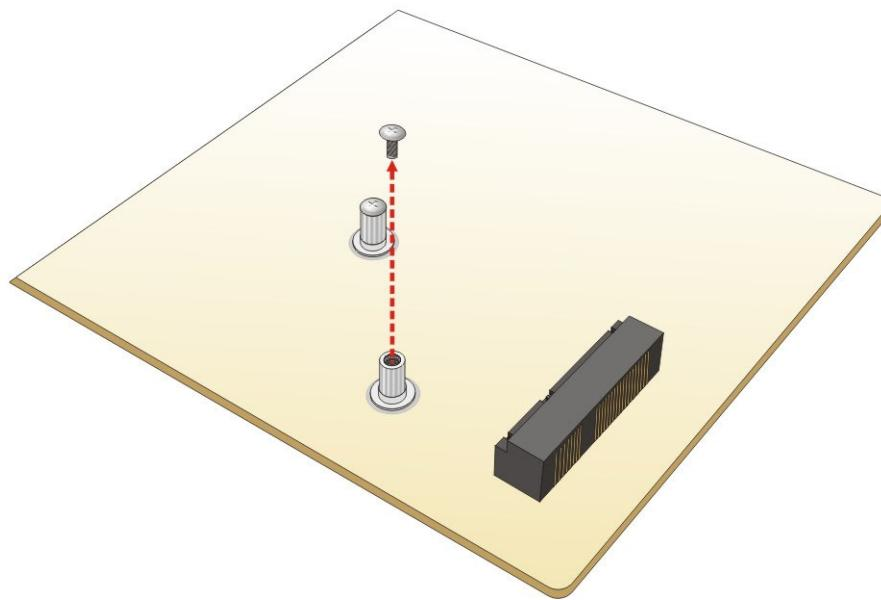

Figure 4-11: Removing the Retention Screw
Step 2: Remove the retention screw. Remove the retention screw as shown in **Figure 4-11**.